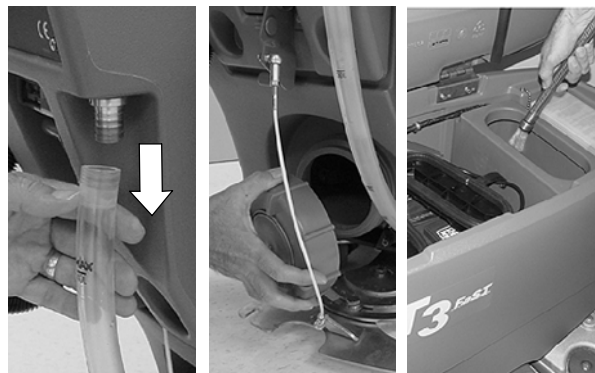

FIG. 44
4. Drain the solution tank and rinse out the inside with water (60°C maximum) as needed (Figure 44)